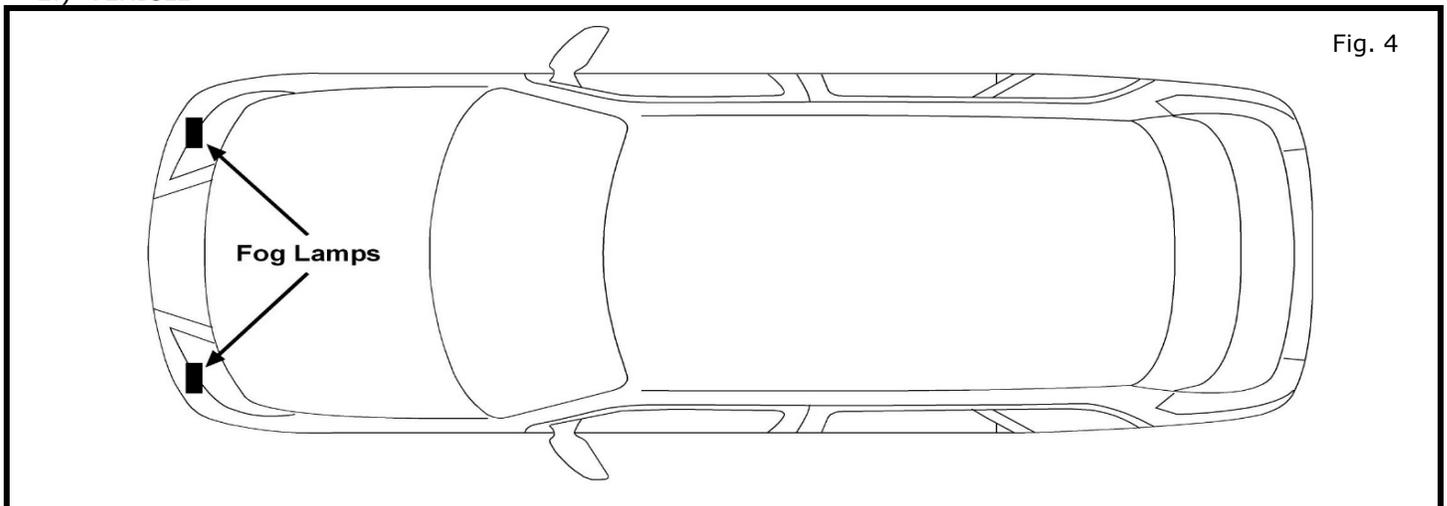

Fig. 4
- a) Locate the proper lift points, set lift arms and raise vehicle as shown in Fig. 4.